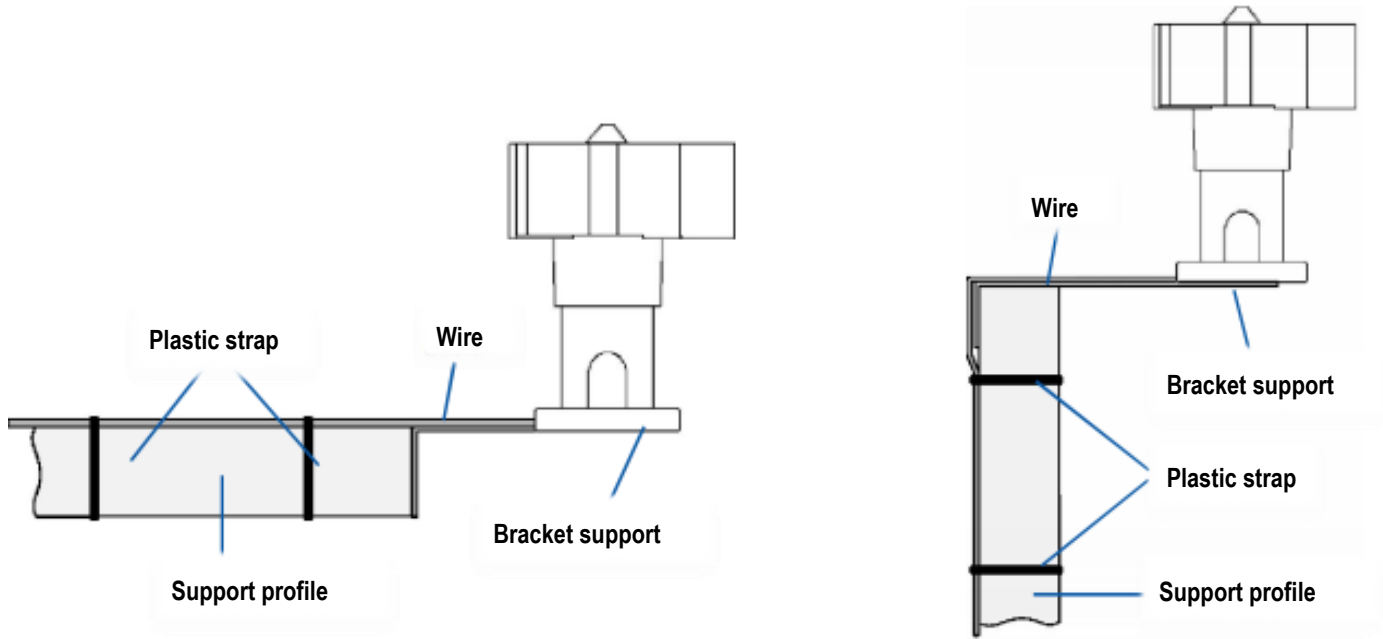

Fig. 3
- Ensure the perpendicularity to the floor of the sensor, the wire must be set to any surface in order to avoid damage caused by high wind speeds. (Fig. 3)